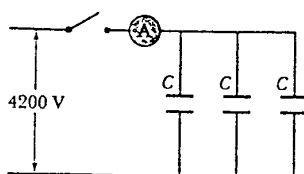

FIG. 26.2
2. Each of the uncharged capacitors in Figure 26.2 has a capacitance of  $25.0 \mu\text{F}$ . A potential difference of  $4200 \text{ V}$  is established when the switch is closed. How many coulombs of charge then pass through meter  $A$ ?